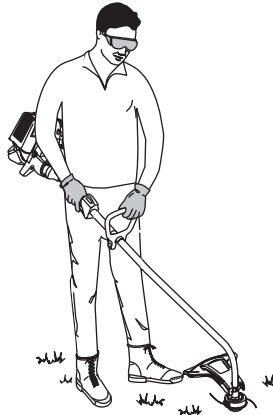

Fig. 10
4. While holding the unit in the operating position (Fig. 10), position the D-handle to the location that provides you the best grip.
Before operating the unit, stand in the operating position (Fig. 10). Check for the following: